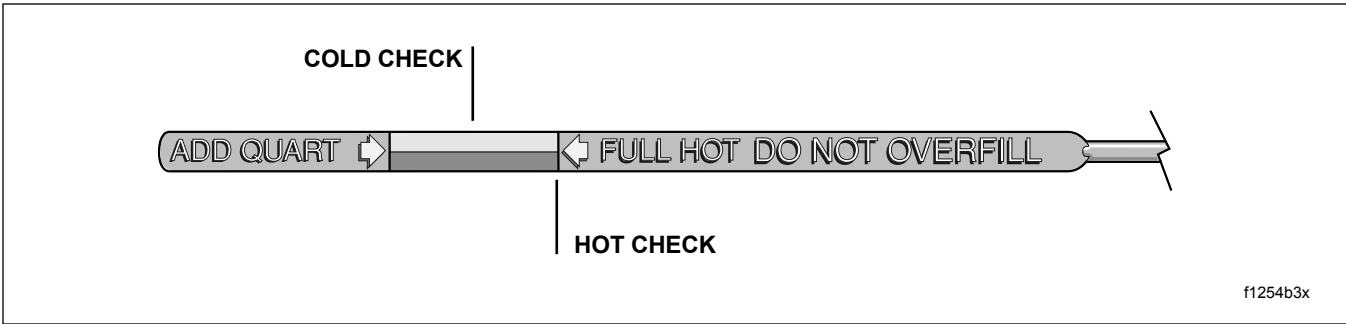

Figure 1-2. Engine Oil Dipstick
- b. Remove the dipstick and note the level of the oil. Oil level should register between the two arrows on the dipstick. See Figure 1-2. If oil level is at or below the lower arrow, add only enough oil to bring the level between the two arrows on the dipstick.
- d. Remove the dipstick and note the level of the oil. Add only enough oil to bring the level to the FULL mark on the dipstick. See Figure 1-2. Do not overfill